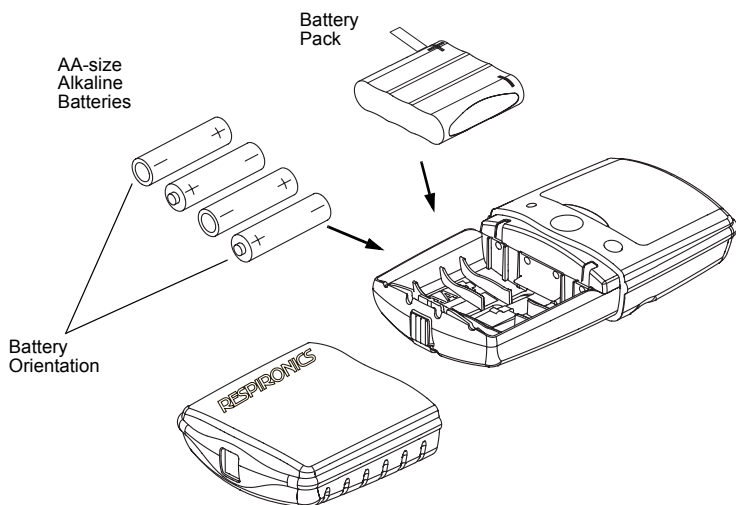

Figure 4. Installing batteries in the 920M PLUS.
2. Insert four new AA-size alkaline batteries or a Rechargeable NiMH Battery Pack. Be sure to insert the batteries in the correct position, as indicated by the polarity markings (+ and -) inside the battery compartment. Refer to Figure 4 on page 8 for an illustration of correct battery orientation. *Proper battery positioning is essential for correct operation.*